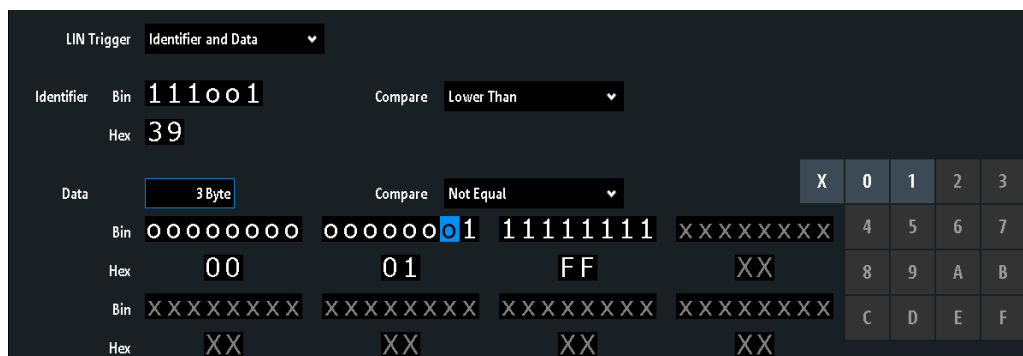

Figure 12-32: Trigger setup to trigger on identifier and data patterns
- "Identifier and Data" Triggers on a combination of identifier and data condition. The instrument triggers at the end of the last byte of the specified data pattern. An example is shown in Figure 12-32. See "Identifier condition" on page 264 and "Data condition" on page 265.